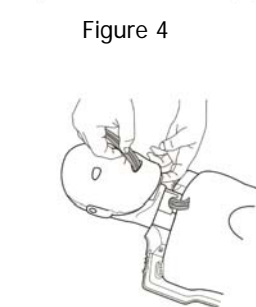

Figure 6
Should compressions exceed 120 per minute, a yellow light will flash rapidly indicating the recommended cap has been reached. (Figure 6)
6. Push the Lung-Bag into the mouth until the bag exits through the neck of the manikin (Figure 6).